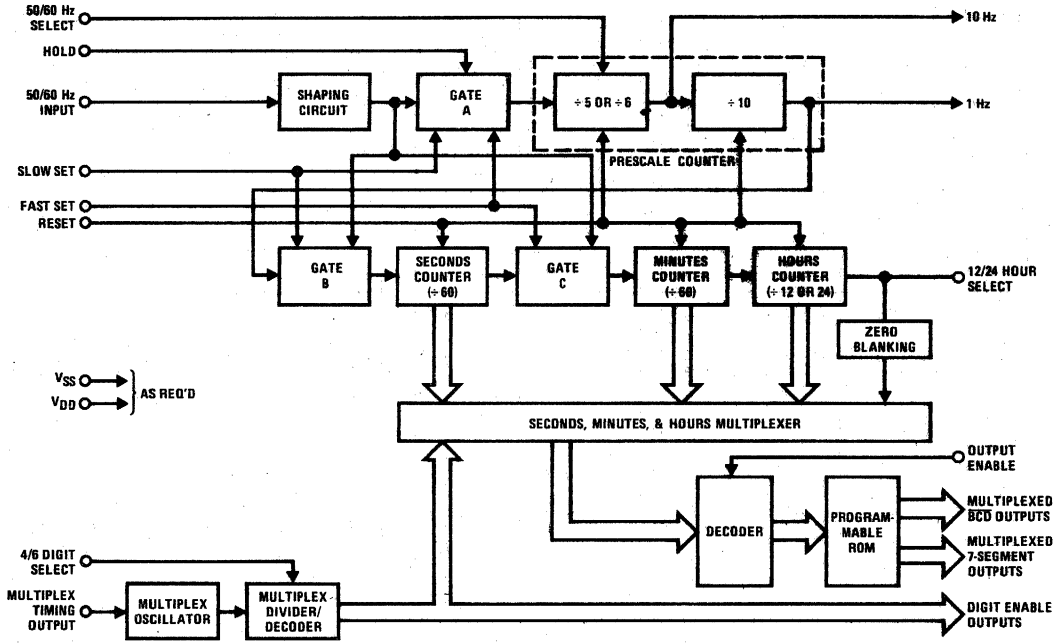

FIGURE 1. MM5309 Digital Clock Block Diagram
A block diagram of the MM5309 digital clock is shown in *Figure 1*. MM5311, MM5312, MM5313, MM5314 and MM5315 clocks are bonding options of MM5309 clock. Table 1 shows the pin-outs for these clocks.
**50 or 60 Hz Select Input:** This input programs the prescale counter to divide by either 50 or 60 to obtain a 1 Hz timebase. The counter is programmed for 60 Hz operation by connecting this input to VDD. An internal depletion device is common to this pin; simply leaving this input unconnected programs the clock for 50 Hz operation. As shown in *Figure 1*, the prescale counter provides both 1 Hz and 10 Hz signals, which can be brought out as bonding options.
The three gates in the counter chain (*Figure 1*) are used for setting time. During normal operation, gate A connects the shaper output to a prescale counter ( $\div 50$  or  $\div 60$ ); gates B and C cascade the remaining counters. Gate A is used to inhibit the input to the counters for the duration of slow, fast or hold time-setting input activity. Gate B is used to connect the shaper output directly to a seconds counter ( $\div 60$ ), the condition for slow advance. Likewise, gate C connects the shaper output directly to a minutes counter ( $\div 60$ ) for fast advance.